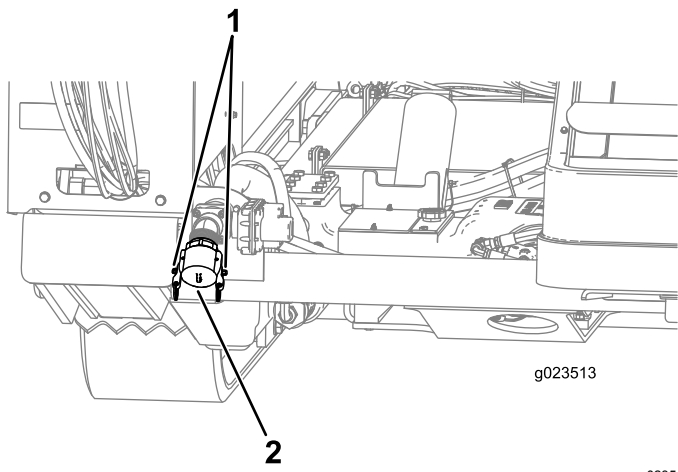

Figure 48
1. Raise the cam-lock levers on the pump-inlet cap, and remove the cap (Figure 48).